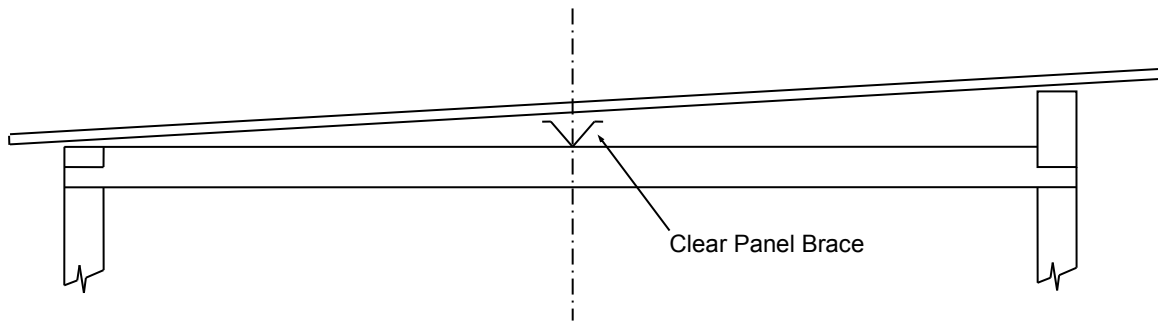

fig. 3
**Step 1a:** Pre-drill hole in V at both ends of Clear Panel Brace. Position Clear Panel Brace centrally on Top End Plates and nail in place using a 30mm clout each end (**fig. 3**).